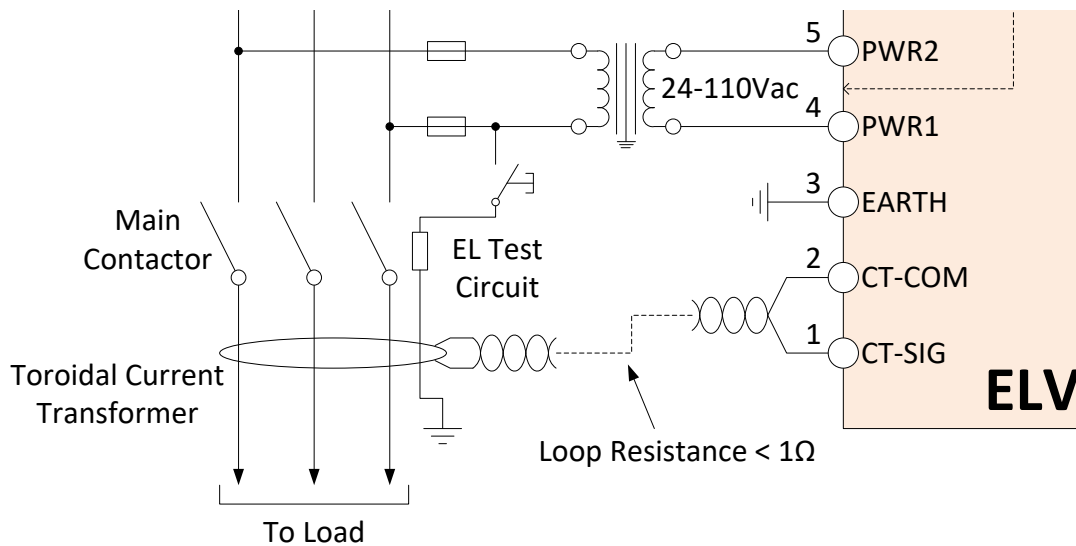

Figure 5.1: Earth Leakage Test Circuit
Inject a test current at 120% of the trip level setting through the toroid, as shown in Figure 5.1. Verify that the ELV relay trips as expected.
- Inject a test current at 120% of the trip level setting through the toroid, as shown in Figure 5.1. Verify that the ELV relay trips as expected.